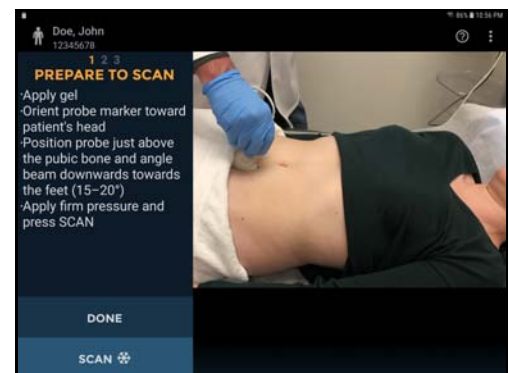

Fig 3.2 Place transducer and start scan
- If necessary, palpate the patient's pubic bone, and place a generous volume of gel just above (about 1 inch or 2.5 cm) the pubic bone (see Fig 3.2).